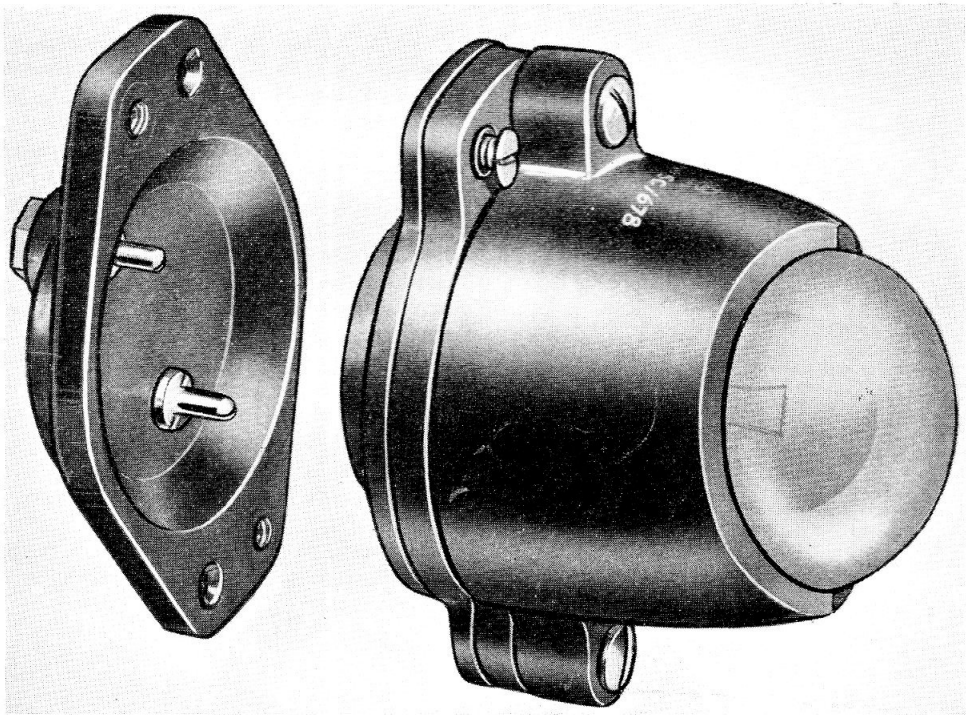

Fig. 1. Head navigation lamp, Type B
2. The head lamp, Type B, is made in two assemblies, the lamp proper, which is removable, and the base socket, which is fixed to the airframe. Two csk/hd. screws secure the lamp to the base socket. Electrical connection between the two assemblies is by plug pins and sockets (*fig. 1*).